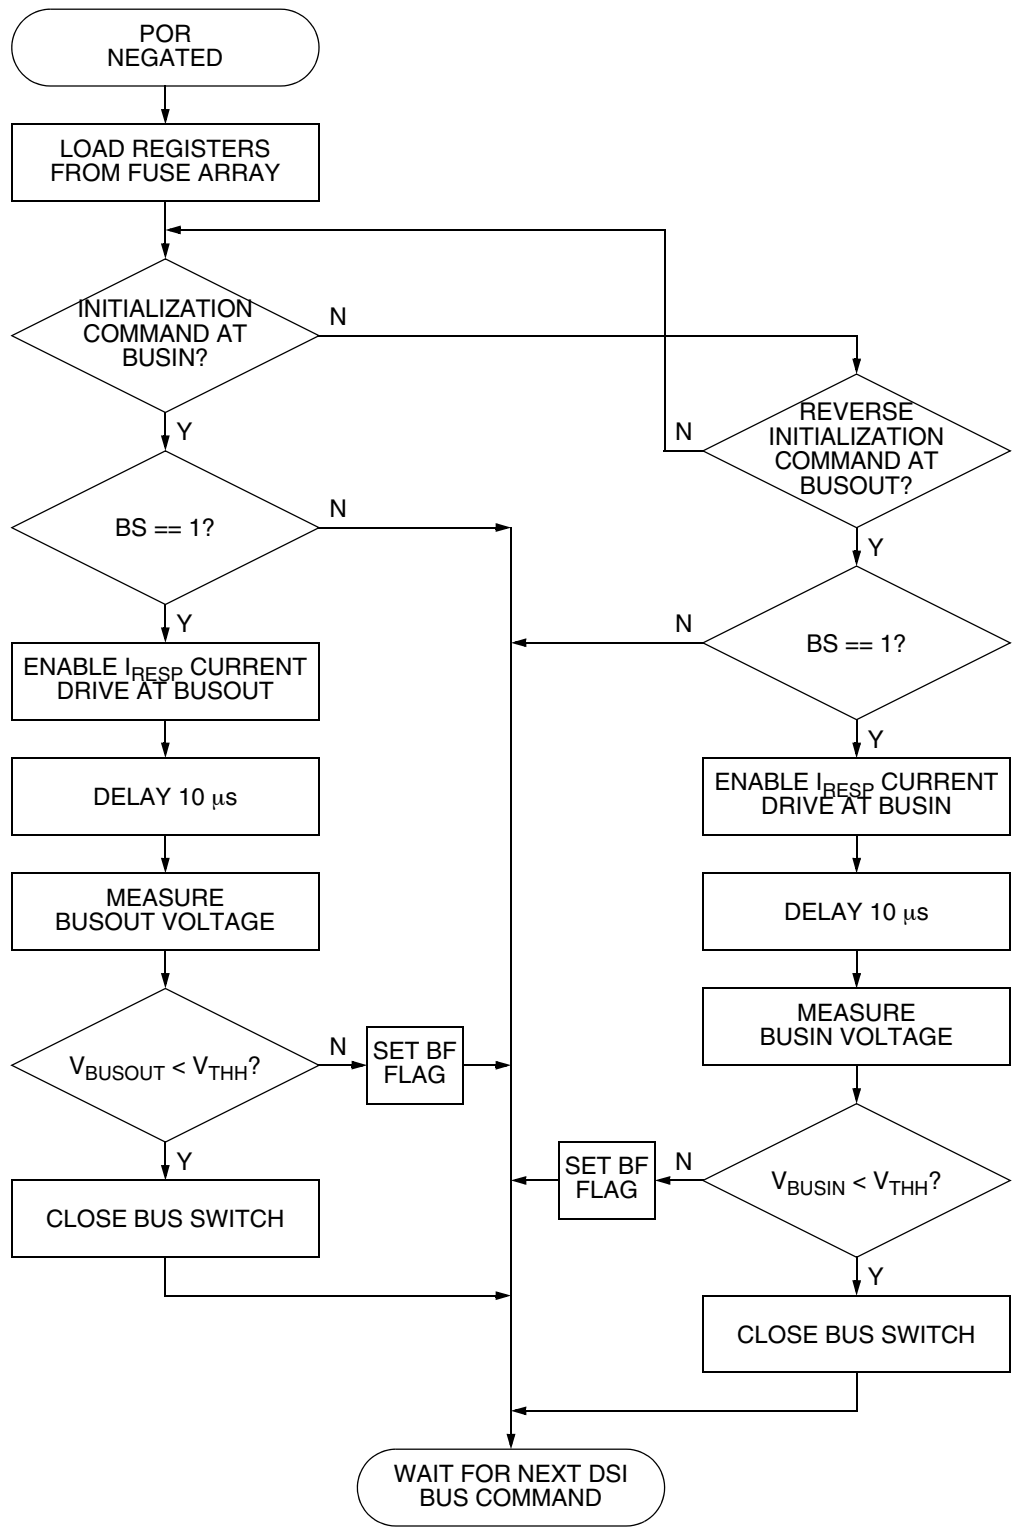

Figure 4-1. Initialization Sequence
**Figure 4-1** illustrates the sequence of operations performed following negation of internal Power-On Reset (POR) and execution of a DSI Initialization command. Initialization commands are recognized only at BUSIN. The BUSOUT node is tested for a bus short to battery high voltage condition, and the Bus Fault (BF) flag set if an error condition is detected. If no bus fault condition is detected and the BS bit is set in the command structure, the bus switch will be closed. If the BS bit is set, the DSI bus voltage level is disregarded for approximately 180  $\mu$ s following initialization to allow the hold capacitor on a downstream slave to charge. If the device has been pre-programmed, PA3 - PA0 and A3 - A0 must match the pre-programmed address. If no device address has been previously programmed into the OTP array, PA3 - PA0 contain the device address, while A3 - A0 must be zero. If any addressing condition is not met, the device address is not assigned, the bus switch will remain open and the device will not respond to the Initialization command.